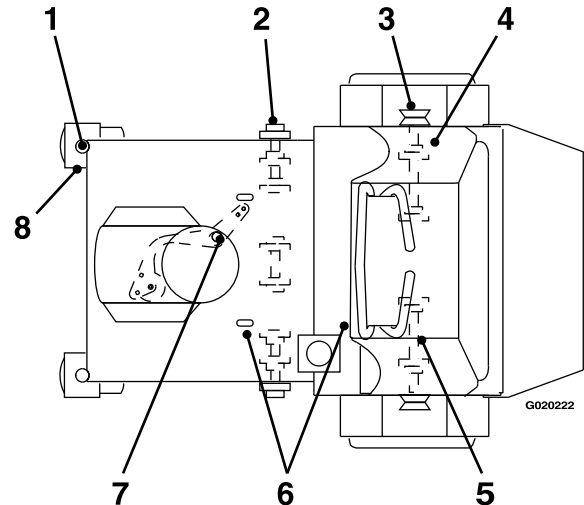

Figure 24
2. Wipe clean the grease fittings with a rag (Figure 24).
3. Connect a grease gun to the fitting (Figure 24).